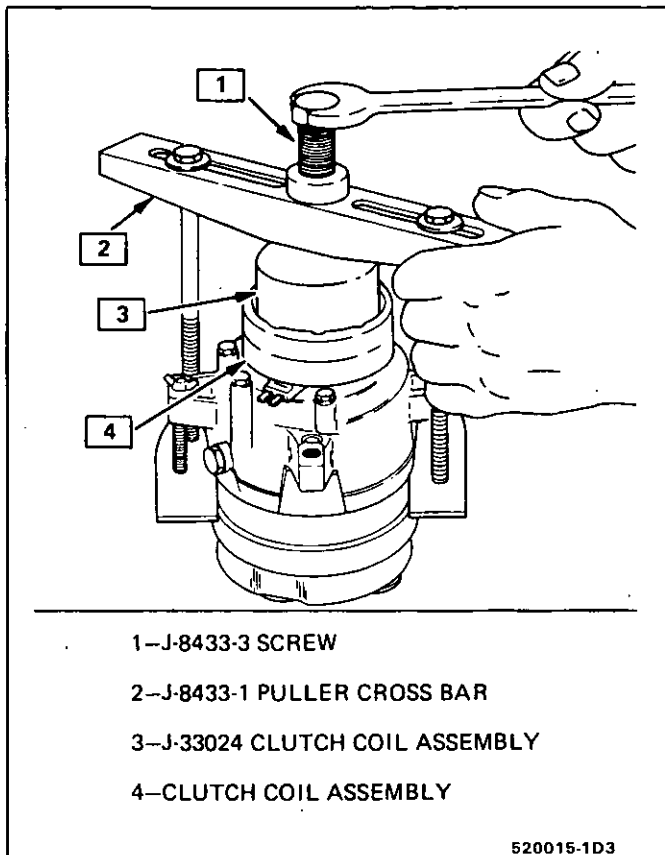

Fig. 19 Installing Clutch Coil Assembly
3. Center the J-8433-1 puller crossbar in the countersunk center hole of the J-33024 clutch coil installer. Install the J-34992-2 through bolts and washers through the crossbar slots and thread them into the holding fixture J-34992 to full fixture thickness (Fig. 19).